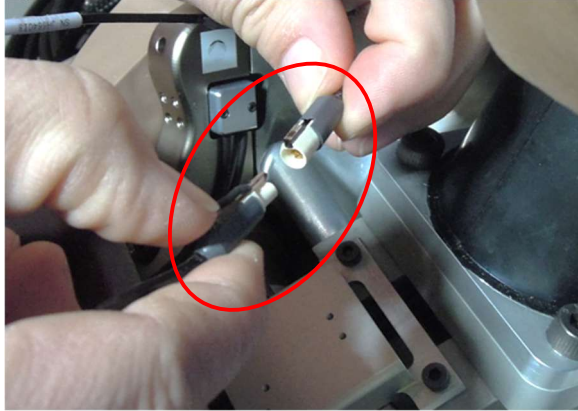
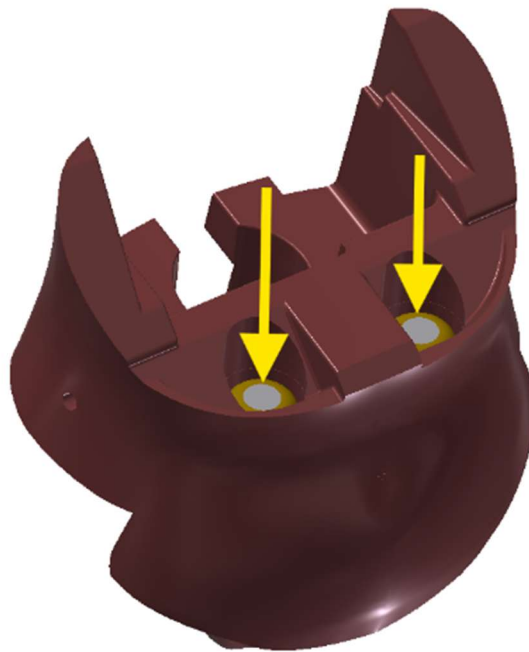

Figure 5-55. Clip the left and right pressure sensor wires
Figure 5-56. Insert the pressure sensors into the Abdomen (474-4305)
- 5.3.21 Clip the left and right pressure sensor wires (Figure 5-55). Insert the APTS sensors (6004707) into the Abdomen Foam (474-4305) (Figure 5-56). The APTS sensors are installed with the instrumentation wires coming out of the bottom.